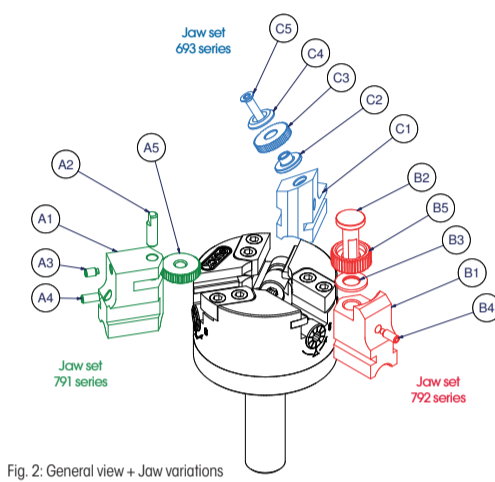

Fig. 2: General view + Jaw variations
Loosen the threaded pin (Fig. 2, Pos. A3) and screw in the rear threaded pin (Fig. 2, Pos. A4) so that the axle pin (Fig. 2, Pos. A2) can be removed. Then, change the knurling wheel (Fig. 2, Pos. A5) and fix it with the axle pin in the groove.
Loosen the threaded pin (Fig. 2, Pos. B4) and remove the shoulder bolt (Fig. 2, Pos. B2) and knurling wheel (Fig. 2, Pos. B5) and race (Fig. 2, Pos. B3). Fit the new knurling wheel with race on the shoulder bolt and clamp it with the threaded pin in the knurl holder. Align the clamping surface of the shoulder bolt so that it is tensioned by the threaded pin.
Completely loosen the lock screw (Fig. 2, Pos. C5) and remove the washer (Fig. 2, Pos. C4) and knurling wheel (Fig. 2, Pos. C3) and bearing bush (Fig. 2, Pos. C2). Then fit a new knurling wheel on the bearing bush and tighten screw it together with the jaw (Fig. 2, Pos. C1) with the lock screw.
Replace the axle pin (Fig. 2, Pos. A2), shoulder bolt (Fig. 2, Pos. B2), knurling wheel (Fig. 2, Pos. A5 + Pos. B5 + Pos. C3), bearing bush or race (Fig. 2, Pos. C2 + Pos. B3) and countersunk screws (Fig. 2, Pos. C5) and knurling wheels (Fig. 2, Pos. A5 + B5 + C5) after an appropriate number of cycles – no later than upon appearance of significant wear or deviating process parameters. An adequate flow of coolant or cutting oil is recommended!
- If the screws loosen with use of the C693 series (Fig. 2, Pos. C5) during the process, use of Loctite is highly recommended.